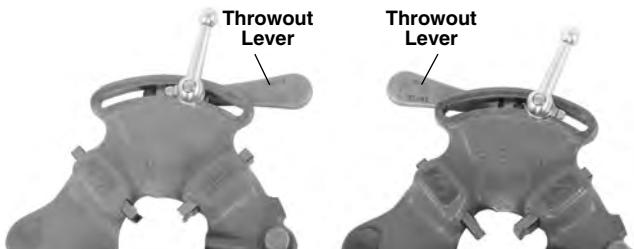

Figure 4 – Open/Closed Lever Position
2. Move throwout lever to OPEN position (Figure 4).